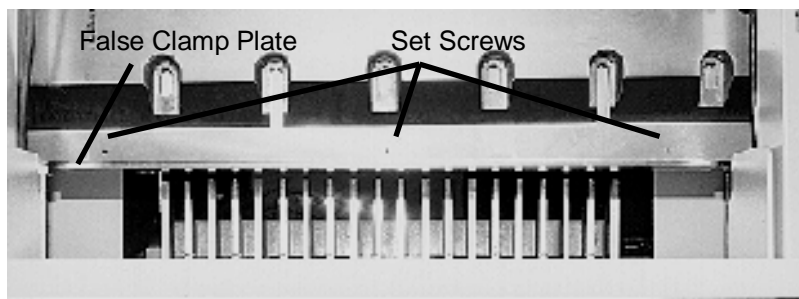

Figure 12
5. Hold the plate in position and secure with the (3) setscrews located in the lower front face of the clamp, Figure 12.